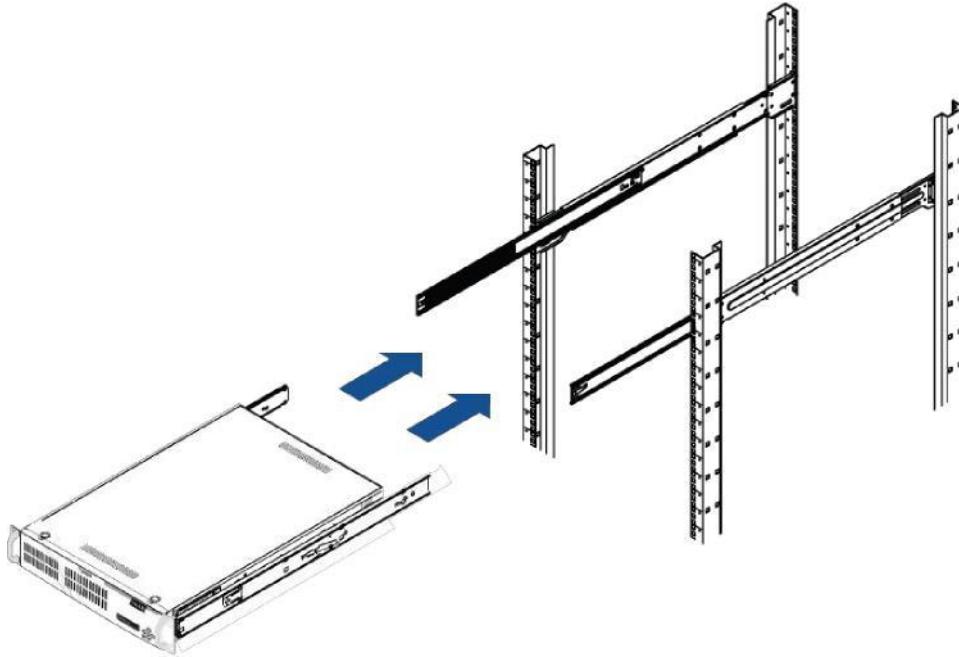

Figure 12: Slide APN Chassis into Rack Using Installed Rails
1. Extend the outer rails as illustrated in Figure 12.